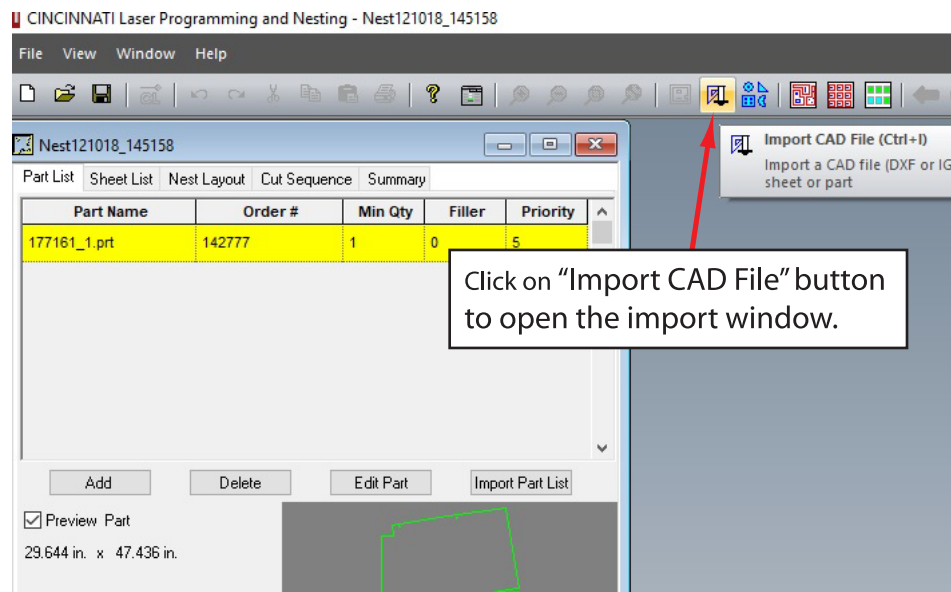

Fig.20
- 25) The first thing you do is click on the “Import CAD File” button in the top icon bar to locate the file you want to convert as shown in Fig.20. A drop-down window will appear, and simply search the folders to locate the part DXF you want to convert to a usable part.